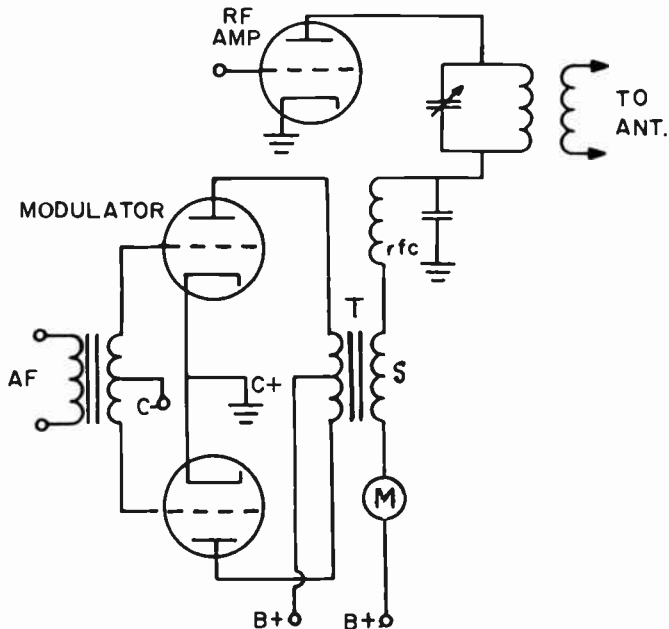
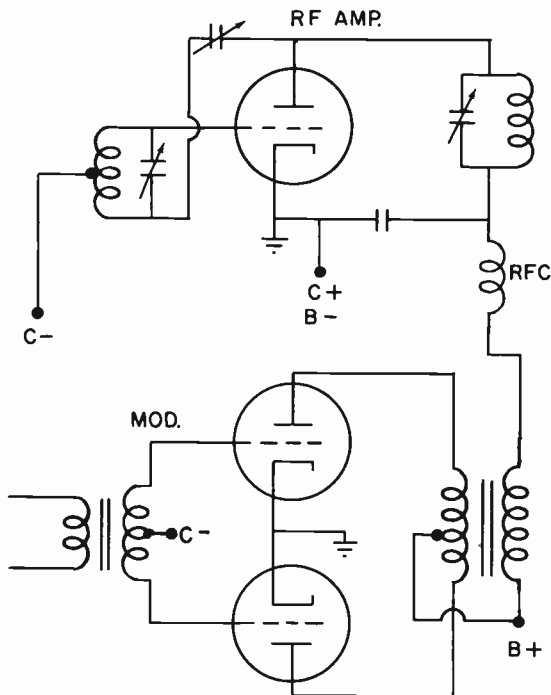

FIG. 14-7. TRANSFORMER-COUPLED MODULATOR CIRCUIT.
FIG. 14-9. A PUSH-PULL CLASS B MODULATOR WITH THE RF STAGE.
**PLATE MODULATION.** There are several methods of plate modulation. The simplest one is illustrated in Fig. 14-7. The audio-frequency output of the modulator stage is coupled through transformer, T, to the plate circuit of the power amplifier. Transformer T is called the modulation transformer. The audio voltage across the secondary, S, of the modulation transformer is in series with the plate voltage of the RF amplifier. Fig. 14-8A shows this audio voltage.
**PLATE CURRENT IN PLATE MODULATION.** In Fig. 14-7, "M" is a DC milliammeter which measures the DC plate current of the modulated RF stage. During normal modulation (100% or under), the DC plate current should REMAIN CONSTANT. If the percent modulation does not increase beyond 100%, there will be no distortion of the RF wave. The instantaneous increase in plate current will, therefore, be exactly the same as the instantaneous decrease in the plate current. Therefore, the average plate current change is zero. The DC plate current meter, therefore, reads the same plate current when the power RF amplifier stage is either modulated or unmodulated. This is also true of grid modulation.
- (1) Improper neutralization of the first RF stage.
- (2) Improper bias in the first RF stage.
- (3) Insufficient RF excitation to the final RF amplifier.
- (4) Overmodulation.
- (5) Positive or negative carrier shift (discussed later in this lesson).
- (6) A defective RF amplifier tube.
- (7) Tank circuit improperly tuned.
**THE PUSH-PULL MODULATOR.** The single-ended (one tube) modulator stage of Fig. 14-7 is operated Class A so that there will be no distortion of the amplified modulating signal. The disadvantage of a one-tube Class A amplifier is that it operates at low efficiency. A low efficiency tube cannot always deliver the power that is required of a modulator stage. A push-pull amplifier is therefore preferred because it is capable of delivering more power than a single tube. Fig. 14-9 illustrates a push-pull modulator circuit being used in a high level modulation system.
If the bias power supply of the modulator of Fig. 14-9 becomes short-circuited, there would be no bias voltage on the grids. The plate current would rise and probably cause damage to the tubes.